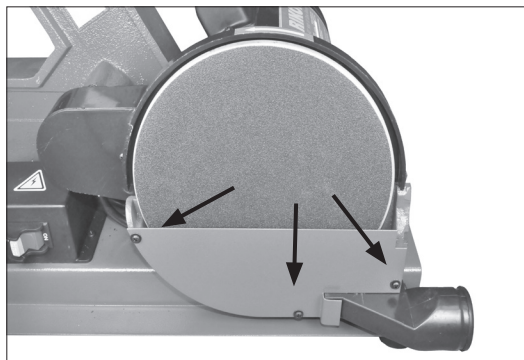

FIG. 9
22. Attach the metal, lower Disc Safety Plate (#31) to the sanding disc base with the three M4 Phillips head Screws (#14). FIG. 9.